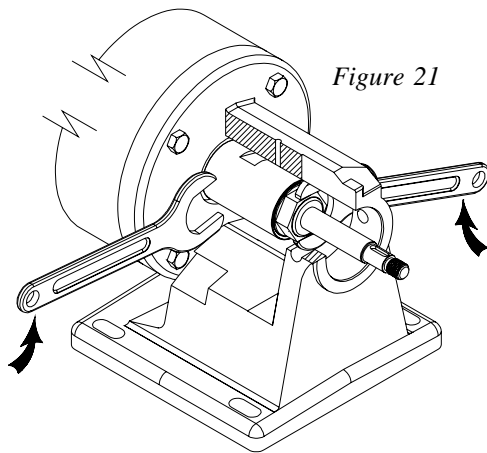

Figure 21
- a) Loosen and remove the threaded ring (7) with two open-end wrenches. Place one wrench on the flat portion of the tapered shaft sleeve (5) and hold while loosening the threaded ring (7) with the second wrench (**Figure 21**).